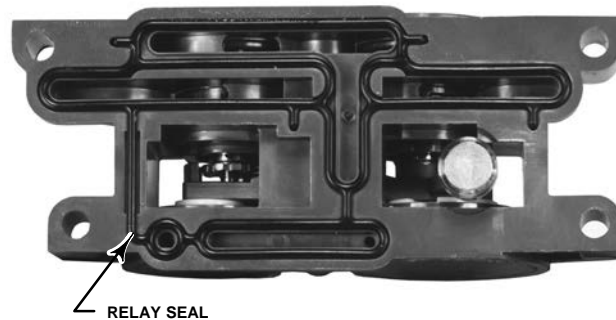

Figure 7-5. Pneumatic Relay Assembly
- Apply silicone lubricant to the relay seal and position it in the grooves on the bottom of the relay as shown in figure 7-5. Press small seal retaining tabs into retaining slots to hold relay seal in place.